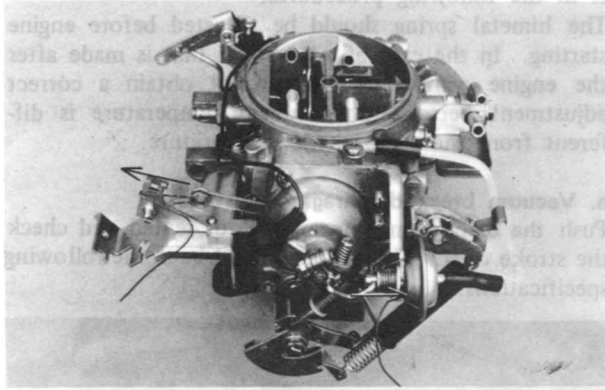

Fig. 4-12 Bimetal spring adjustment
2. Push the vacuum break diaphragm plunger in fully and keep its position by wire as shown in Fig. 4-12.